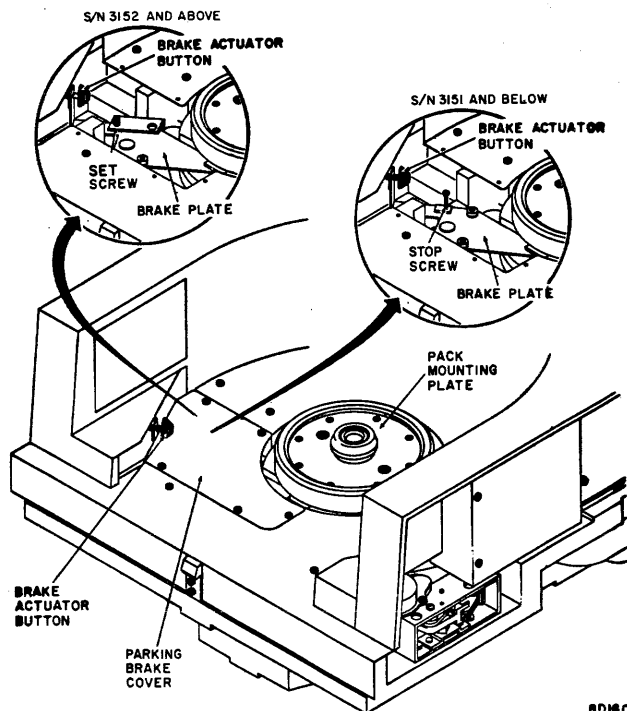

Figure 3-20. Brake Plate Replacement
4. Rotate spindle to a position where the brake tooth is not under a notch in the pack mounting plate (Figure 3-20).
5. Install replacement brake plate assembly to deck casting with two screws and springs (Figure 3-20).